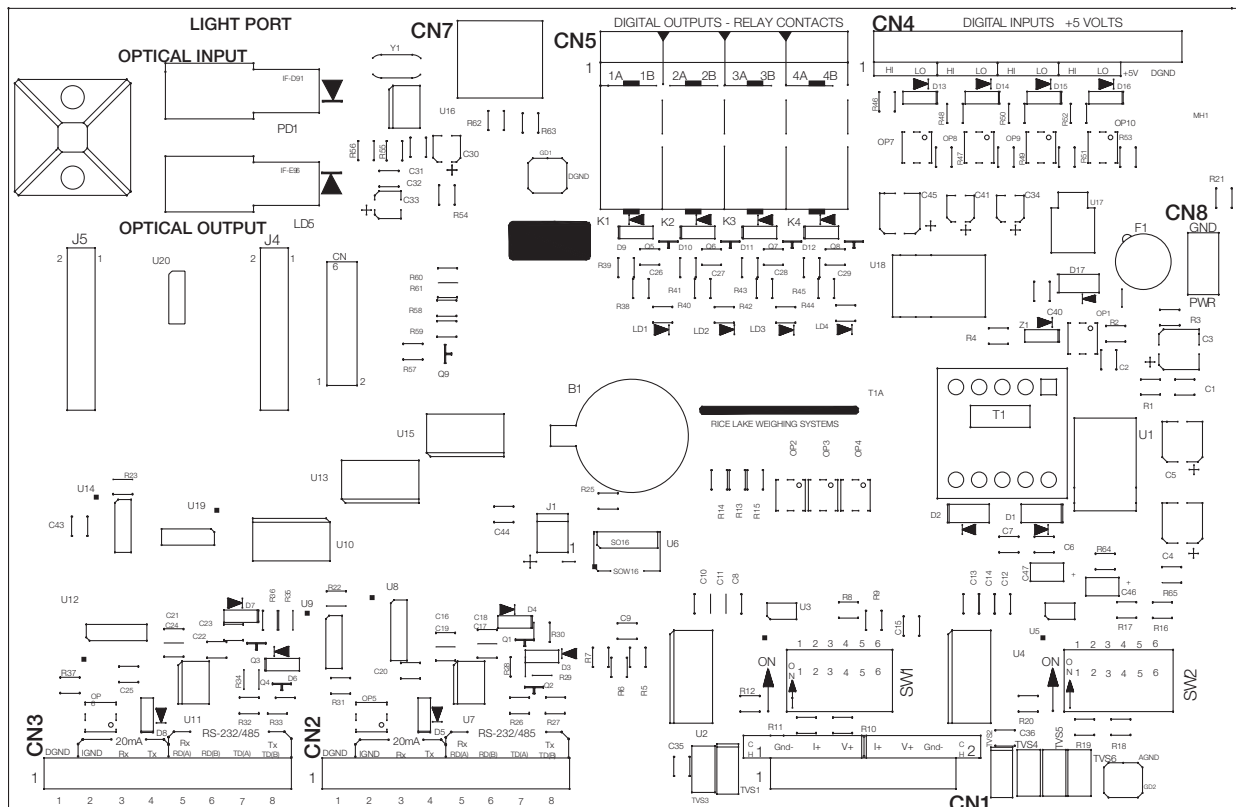

Figure 2-1. *I/O Module* Board
The following section describes the wiring of various ports of the *I/O Module*. Table 2-1 below lists the connectors of the main board of the *I/O Module*. See Figure 2-1 for port locations.
The *I/O Module* is equipped with duplex fiber optic ports for communicating with other devices located in the safe or hazardous area. It provides electrical isolation and eliminates the use of I/O barriers commonly used in intrinsically safe systems. The fiber optic wires are plastic; no polishing or further preparation is required. See Figure 2-1 on page 2 for the location of the fiber optic ports on the *I/O Module* main board.
4. Secure duplex fiber optic cable to wire tie mounting button located on I/O Module circuit board (see Figure 2-1 on page 2) using wire ties included in parts kit.
The *I/O Module* uses two 16-bit isolated analog output channels with 4-20mA and voltage (0-5V/±5V/0-10V/±10V) outputs supplied from a DC/DC converter. The output voltage ranges are DIP-switch selectable (see Figure 2-1 on page 2). Analog output configuration is done via setup mode in the indicator used with the *I/O Module* (see the applicable indicator installation manual).
the analog output circuitry consists of two identical channels that can be assigned to gross or net weight values. The analog output can be configured to operate as either current or voltage outputs. the voltage output range is selected by configuring DIP switches SW1 (1-6) for channel 1 and SW2 (1-6) for channel 2 (see Figure 2-1 on page 2).
The analog output port is powered by an isolated DC-DC converter. The outputs available on connector CN1 are listed in Table 2-8 below. See Figure 2-1 on page 2 for the location of CN1 and DIP switches.
Digital inputs are available on connector CN4 (see Figure 2-1 on page 2). All inputs are individually isolated via optocouplers. Table 2-9 outlines the pin connections for CN4.